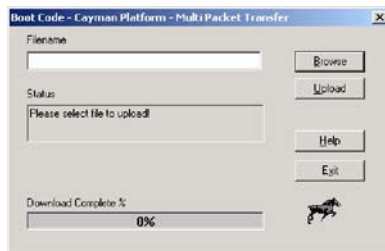

Figure 1 Installing Boot Code Software
- ii. Following is displayed (Figure 1).